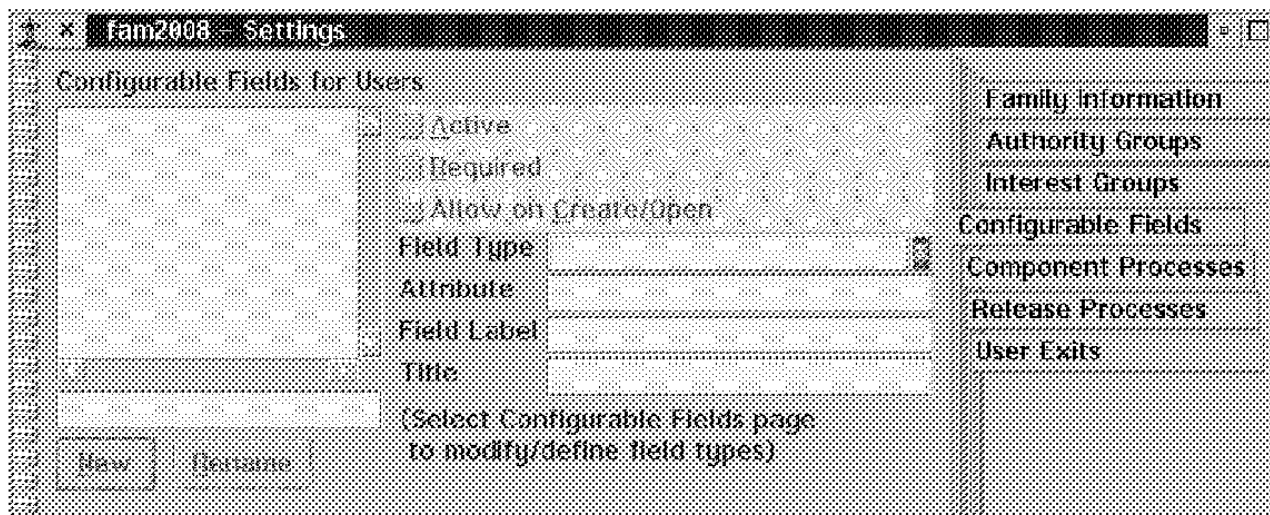
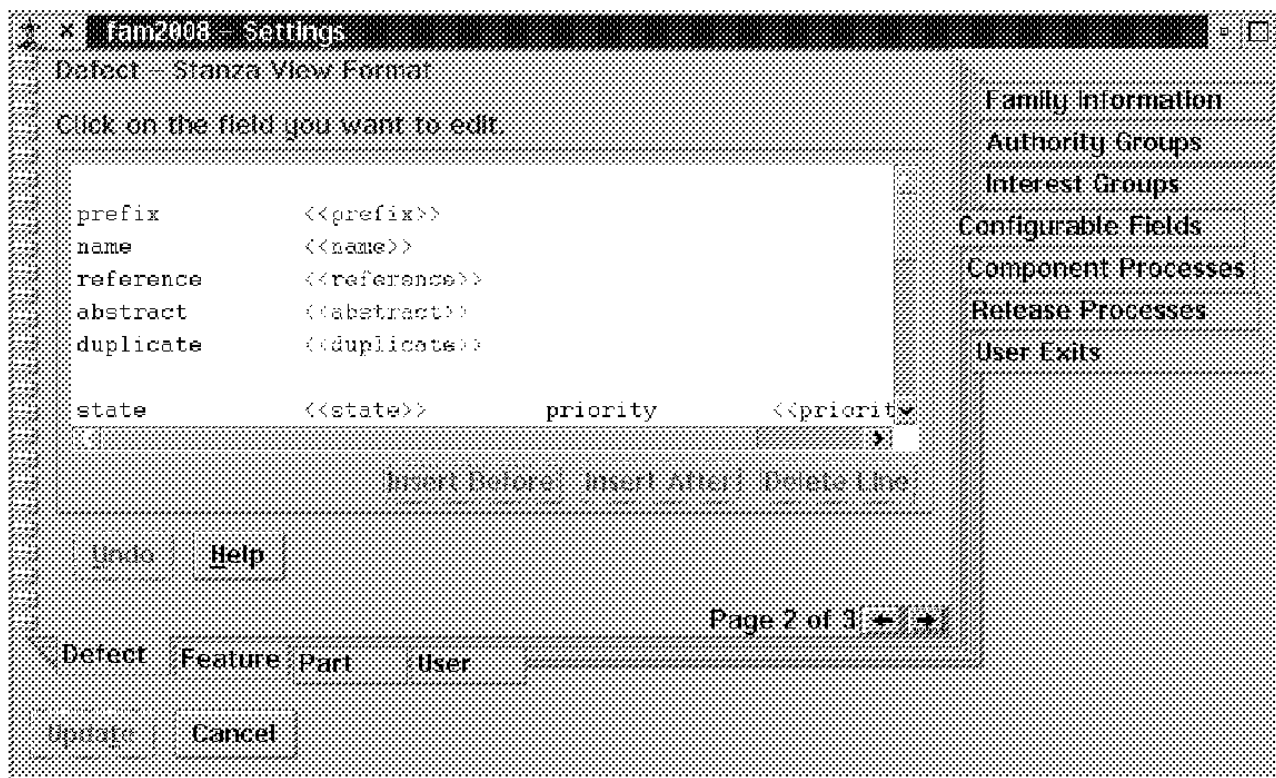

Figure 180. Configurable Fields User Page
Figure 182. Stanza View Format Page
Use the **User** page (see Figure 180) to set up and define the user configurable fields. You can use:
1. From the **Defect**, **Feature**, **Part**, or **User** page, use the right arrow at the bottom-right corner of the notebook page to access the **format** page (see Figure 177 in topic 12.4.3.2, Figure 178 in topic 12.4.3.3, Figure 179 in topic 12.4.3.4, or Figure 180 in topic 12.4.3.5). Select the arrow once for the **Stanza View Format** page (see Figure 182).